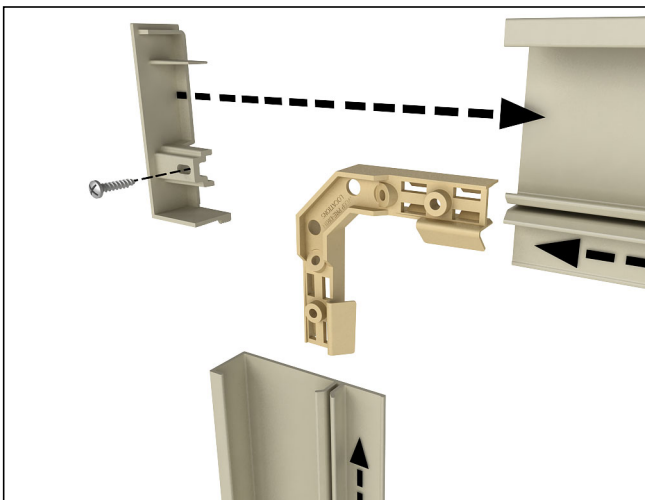

Figure 66
4. Attach end caps to head jamb pieces with supplied screws. See *figure 66*.